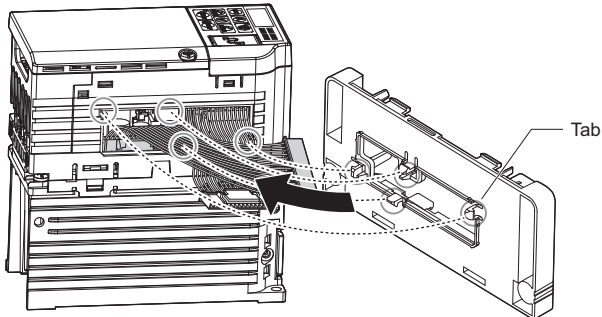

Figure 13 Connecting the Mounting Attachment (PS-V10S)
2. Align the four tabs on the mounting attachment with the inside edges of the cable access opening on the drive and gently press and click the mounting attachment into place as shown in *Figure 13*.